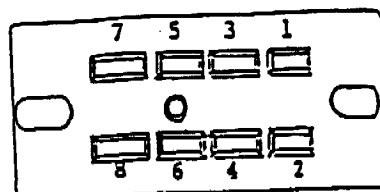

Figure 3
2. Remove the terminal from location 3 of the changer socket (see figure 3 above) using the removal instructions on page 2.
4. Insert wire #3 of conversion harness in changer socket location 3. (See figure 3, page A1.)
5. Insert wire #4 of the conversion harness in the changer socket location 4. (See figure 3, page A1.)
6. Discard wire numbers 7 and 8 of the conversion harness. They will not be used in a dual (2) price installation.